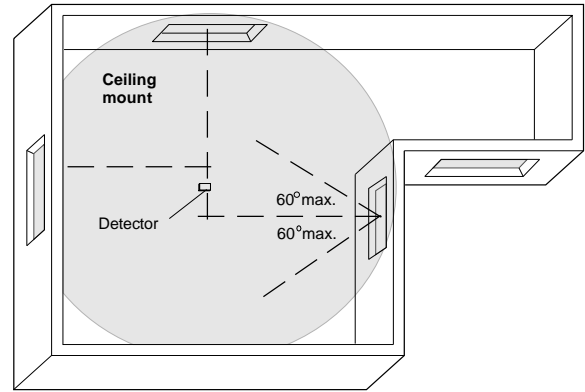

Figure 3 - Multiple Window Coverage
- Mount the detector as close to where the lines intersect as possible. See Figure 3.
- Do not mount the detector at more than a 60° angle from the center of any window to be protected. See Figure 3.